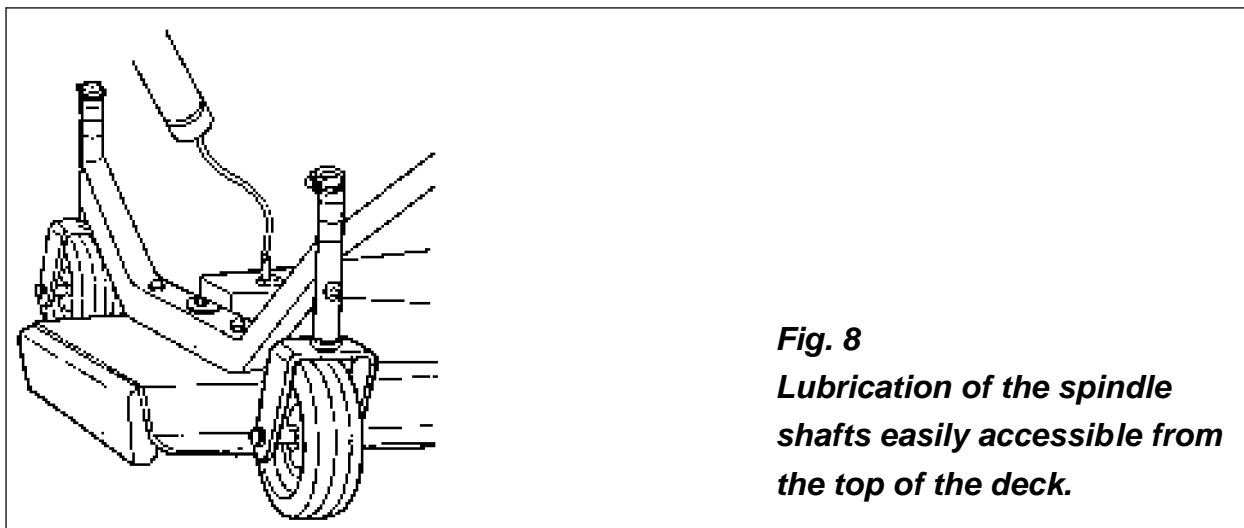

Fig. 8
1. lubricate the three spindles with two or three shots of multipurpose grease (see fig. 8). The top grease fittings are easily accessible from the top of the deck by simply removing the plastic dust guards.